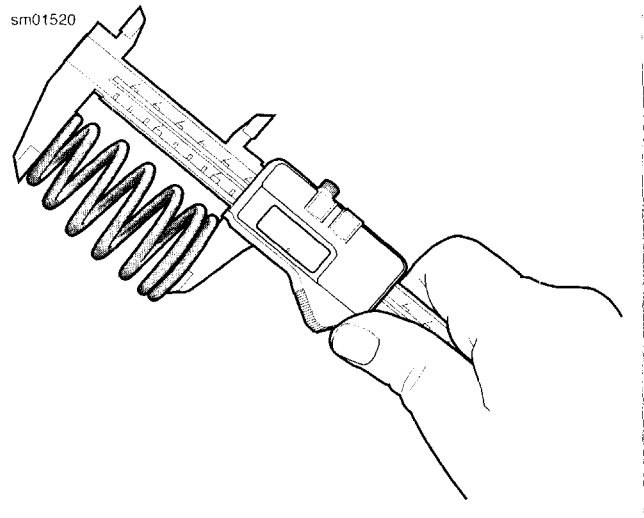

Figure 3-121. Checking Spring Free Length
2. See Figure 3-121. Check free length of each spring with caliper as shown. Test compression force of spring using VALVE SPRING TESTER (Part No. HD-96796-47). Compare with 3.2 SPECIFICATIONS. If spring length is